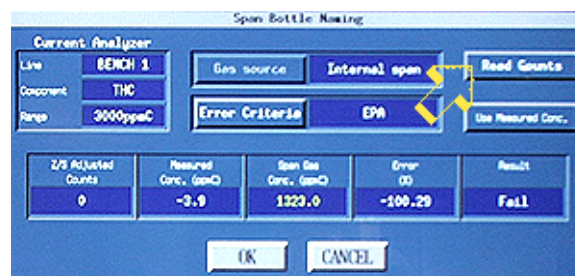

Figure 12
- 116 In the “Span bottle naming” menu, click on “Read Counts.” See the arrow in Figure 12. The “Read counts” panel will appear and the automatic read counts process will begin